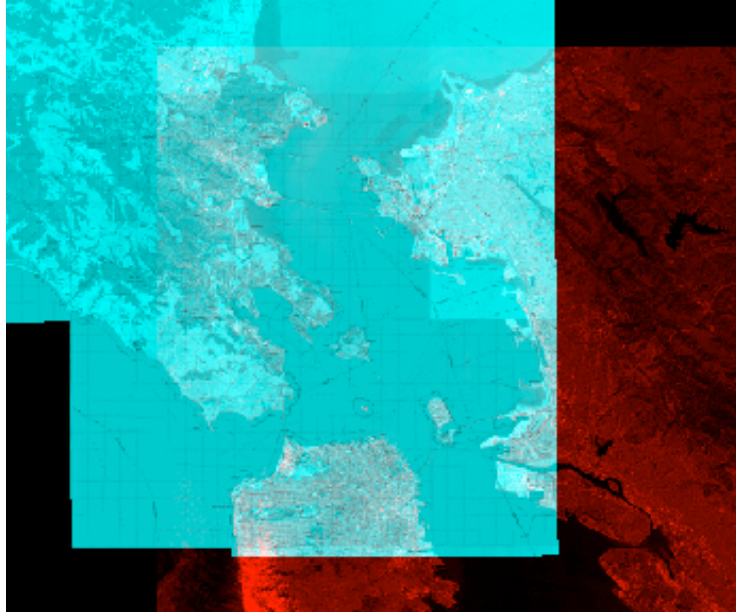

Figure 6. Two-Color Multiview
4. Select desired filter; for example, an **ossimTwoColorView** is created in *Chains* (see Figure 6)